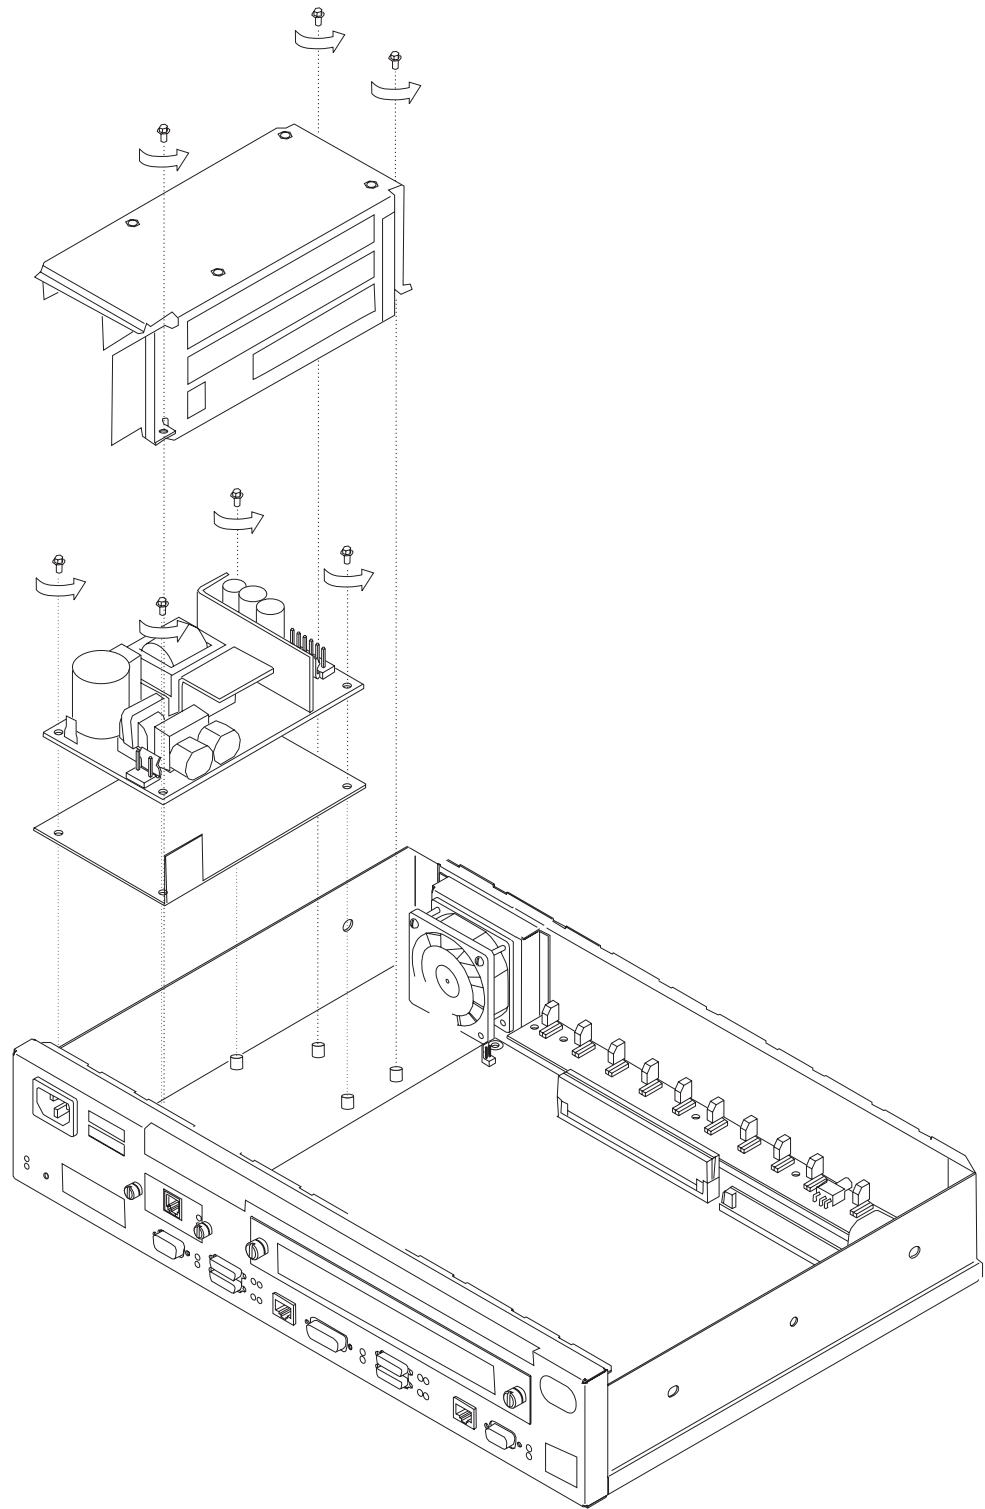

Figure 4-27. Removing the Screws from the Power Supply (14T and 24x Models)
- 1** Remove the screws that attach the power supply cover to the chassis as shown in Figure 4-27 on page 4-23.